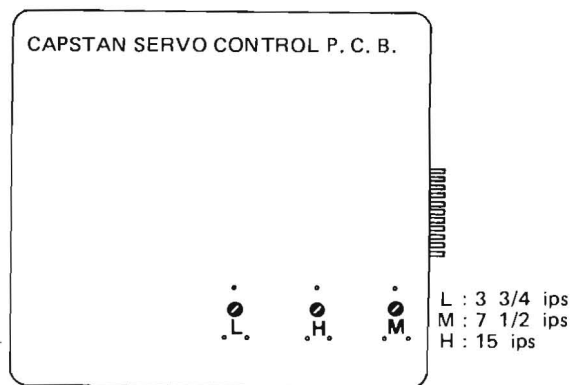

Fig. 5-3 Capstan Servo Control P.C.B.
- (4) Slide the switch to L for 7-1/2 and 3-3/4 or H for 15 and 7-1/2 ips.
- (5) Put a speed reference tape for the speed selected on the transport.
- (6) Play the tape and measure the frequency of the output signal with a frequency counter.
- (7) Adjust the appropriate pot on the servo P.C.B. Ass'y near the capstan motor, as illustrated Fig. 5-3, to obtain the reference speed frequency.
- (8) Re-install the side and rear panels.